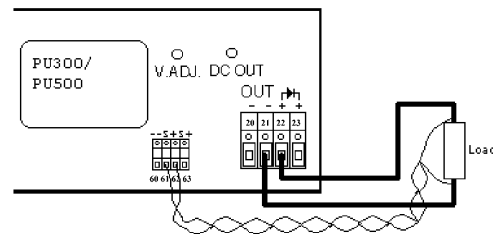

Figure 6. External sense.
- Connect a twisted-pair (0.25mm² - 1.5mm²) between the sense terminals of the converter and the load, see Figure 6. The sense leads and the power cables shall be of approximately the same length and drawn as close to each other as possible. **Beware of correct polarity!**